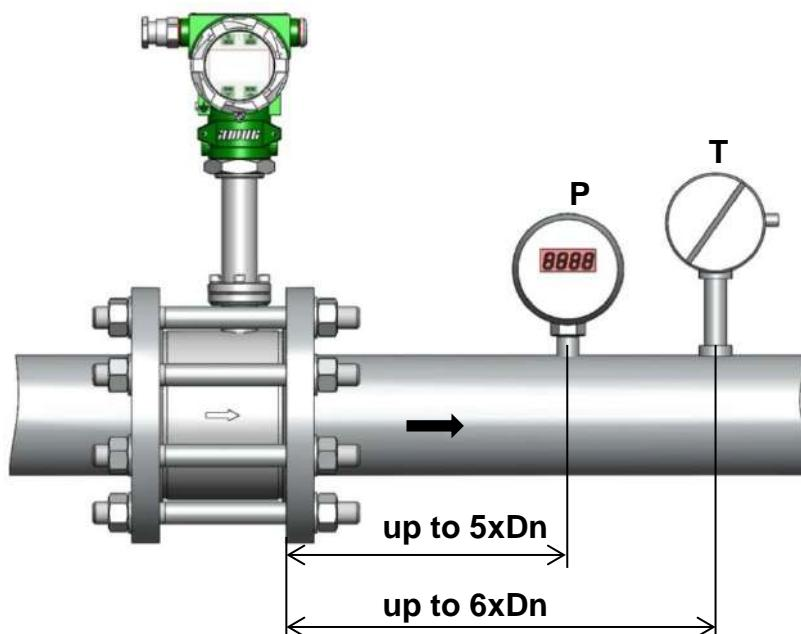

Figure 2.3 - Installation scheme for full-bore flow meter, pressure and temperature gauges
2.1.12 If flow meter is used for gas metering, pressure and temperature gauges shall be installed downstream as shown in fig. 2.3. It is allowed to install pressure gauge 5xDn before the flow meter.